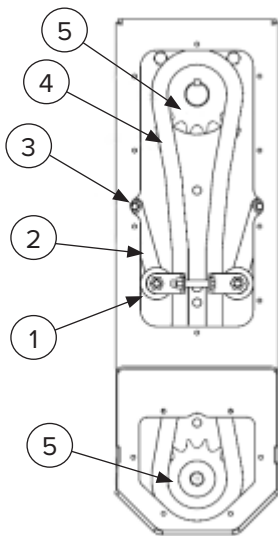

Figure 13
**NOTE:** The gauge wheel can also be adjusted up / down at the spindle mount arm (Item 5) [Figure 13].
2. Remove the upper access cover (Item 1) [Figure 13] to perform inspection. Use inspection chart below.
3. Tighten nut (Item 3) [Figure 13] until snug, back off 1/2 - 3/4 of a turn. The tensioner arms (Item 2) [Figure 13] should swing freely.
✓	Inspect for worn tensioner rollers (Item 1) [Figure 13].
✓	Inspect the chain (Item 4) and sprockets (Item 5) [Figure 13] for excessive wear.